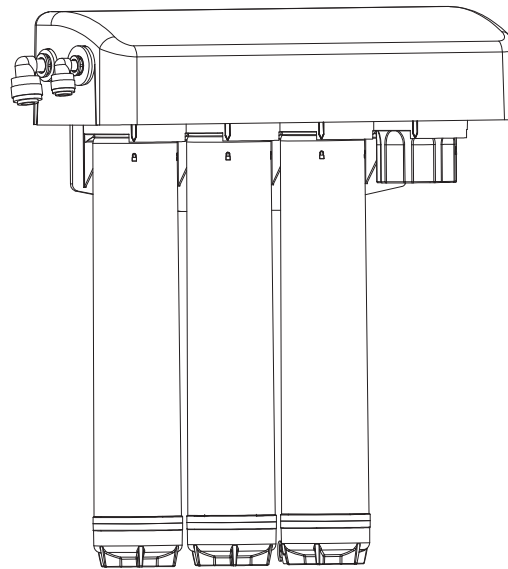

Figure 3.
**NOTE 2) If only three cartridges are to be inserted into the manifold, the bypass plug cartridge must be inserted in the 4th position. See Figure 3.**